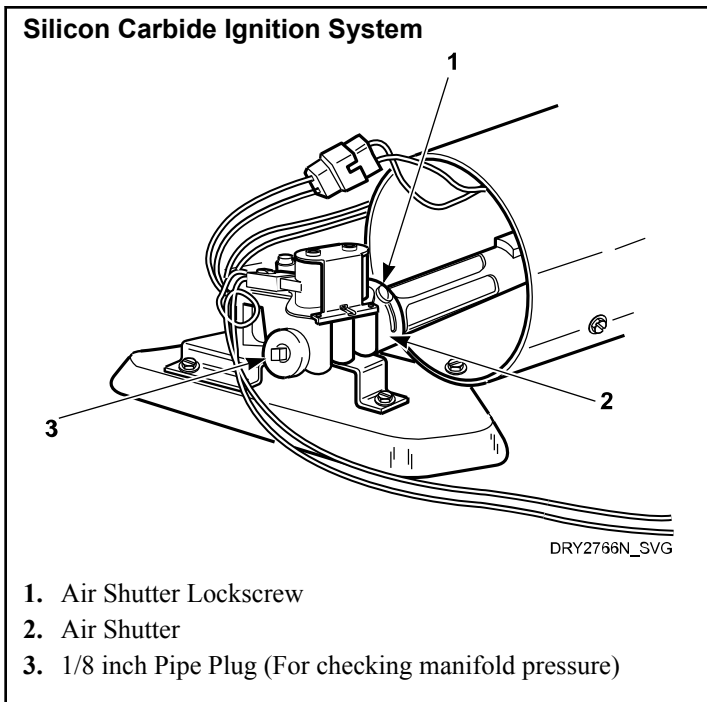
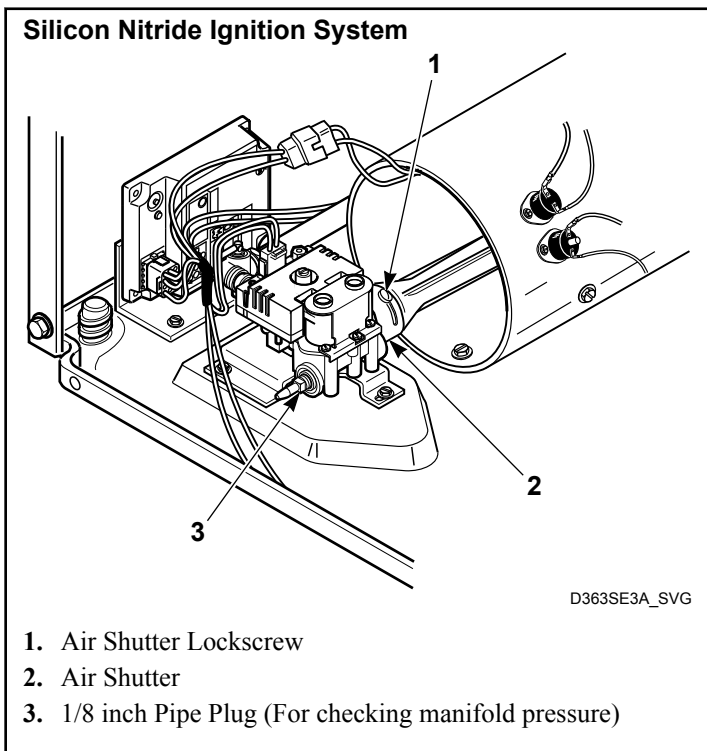

Figure 22
Figure 23
3. Close main gas shut-off valve. Refer to *Figure 22* and *Figure 23*.
5. Allow the dryer to operate for approximately five minutes, then loosen the air shutter lockscrew. Refer to *Figure 22* and *Figure 23*.
7. After proper flame is obtained, tighten air shutter lockscrew firmly. Refer to *Figure 22* and *Figure 23*.